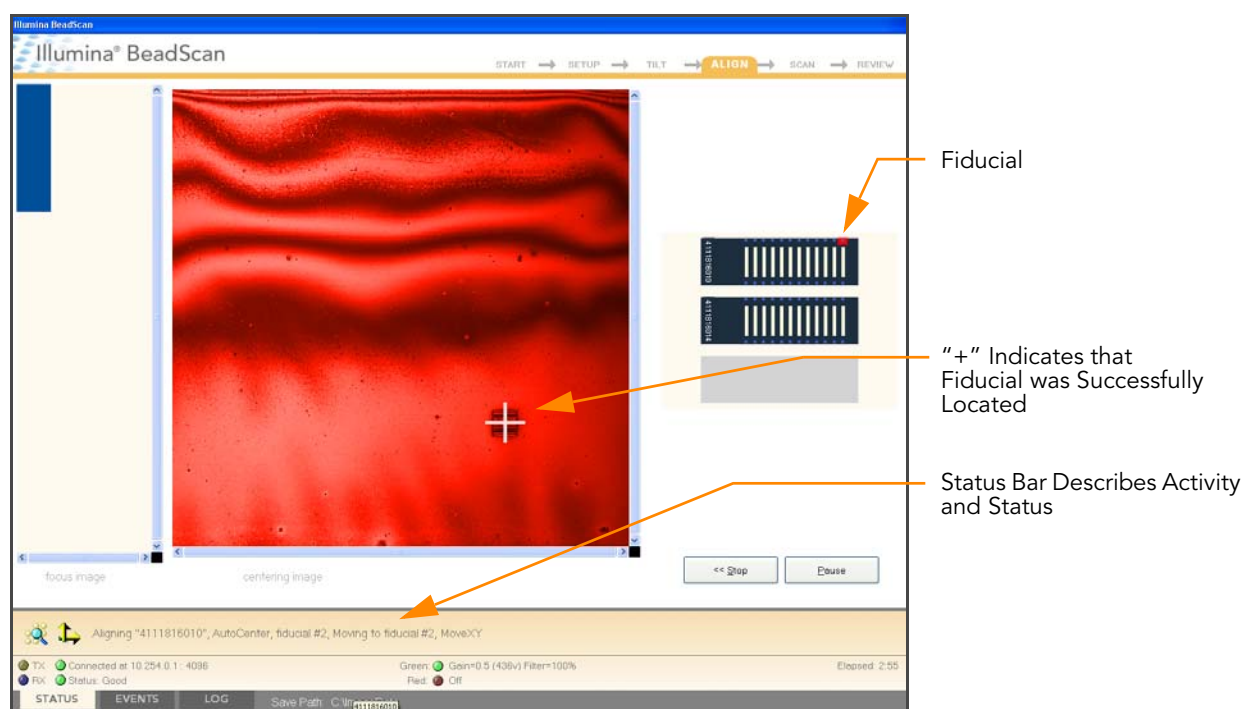

Figure 51 BeadArray Reader Align Process
2. **Align**—The BeadArray Reader identifies the X-Y position (lateral location) of the fiducials (focus points) on the BeadChip edges, and then adjusts the optics (Figure 51).